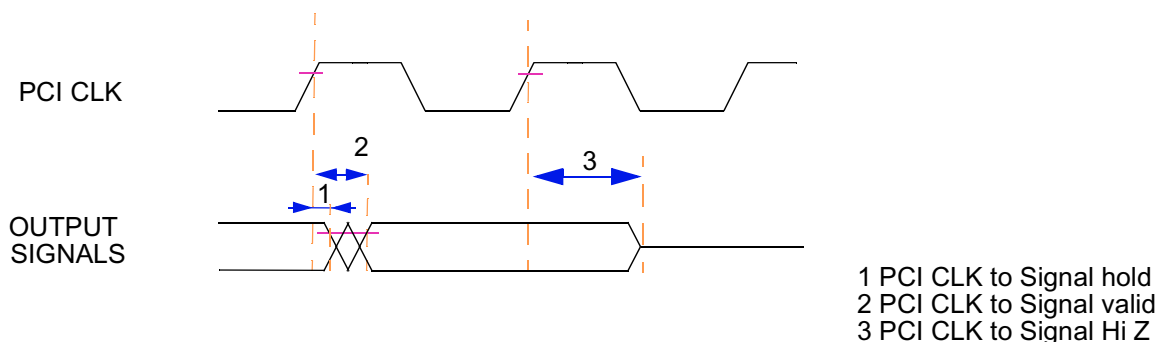

Figure 10 Output Signals Timing
- Transfer Size TSIZE(1:0) are available in Non-MUXed mode for MOST Graphics or Large Flash Modes only. For understanding the different hold/valid/assertion/negation times refer to Figure 10. The timing values in the above table are for a clock ratio of IP_CLK : PCI_CLK = 1 : 1 only. The values will be different for other IP_CLK : PCI_CLK clock ratios.
For understanding the different hold/valid/assertion/negation times refer to Figure 10.